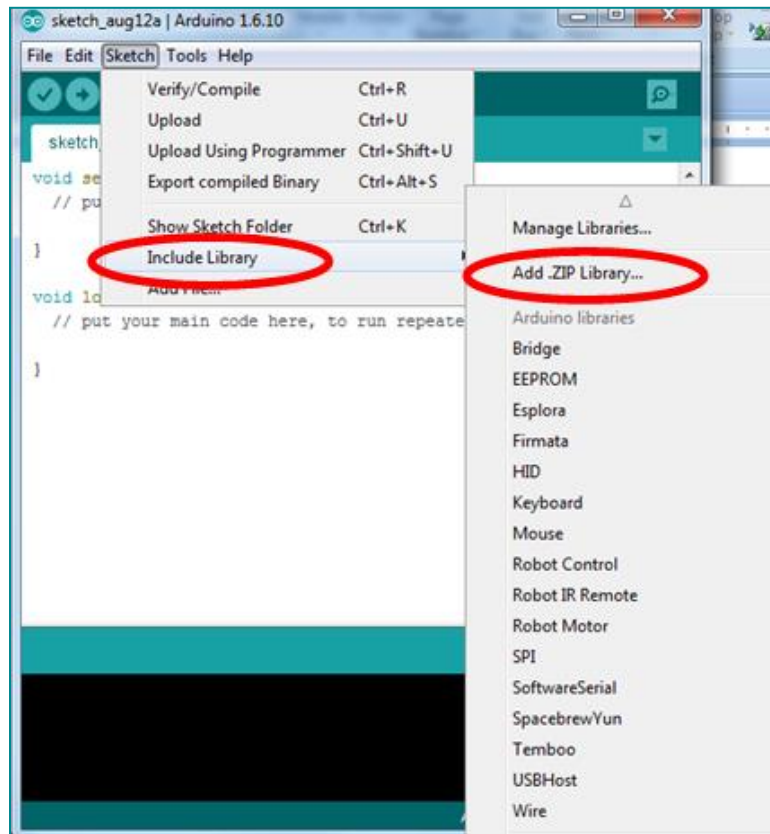

Figure 4-1. Adding the library required by the Adafruit motor shield.
3. Open the Arduino IDE, go to the **Sketch** tab and move the mouse cursor to the **Include Library** menu option (see Figure 4-1).